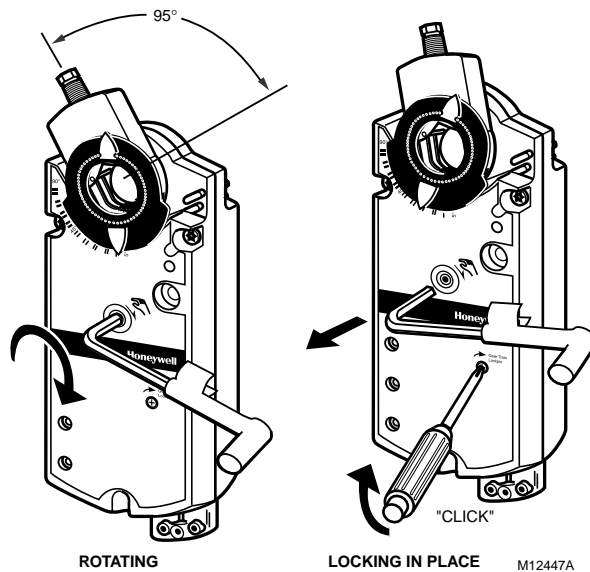

Fig. 8. Manual override of ML6195/ML6295 Spring Return Direct Coupled Actuators.
2. Insert the supplied key (Allen wrench) as shown in Fig. 8.